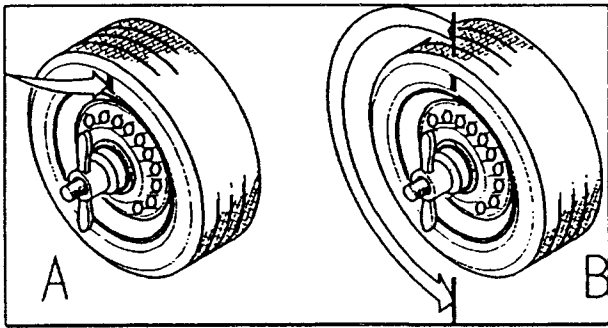

Fig.44
C. Mark the tire in line with the valve stem (Fig.44 #A), which is usually on the outer plane of the wheel.
Deflate tire and rotate the tire 180 degrees on the rim (the mark on the tire and the valve shall be at 180 degrees) (Fig.44 #B). Inflate tire to the right pressure **respecting all safety precautions**.
D. Mark the tire in line with valve stem (Fig.44 #A), which is usually on the outer plane of the wheel.
Deflate tire and rotate the tire 180 degrees on the rim (the mark on the tire and the valve shall be at 180 degrees) (Fig.44 #B). Inflate tire to the right pressure respecting all safety precautions.